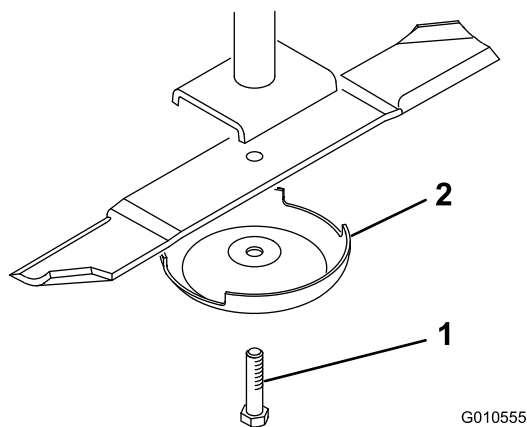

Figure 21
2. Grasp the end of the blade using a rag or thickly padded glove. Remove the blade bolt, anti-scalp cup, and blade from the spindle shaft (Figure 21).